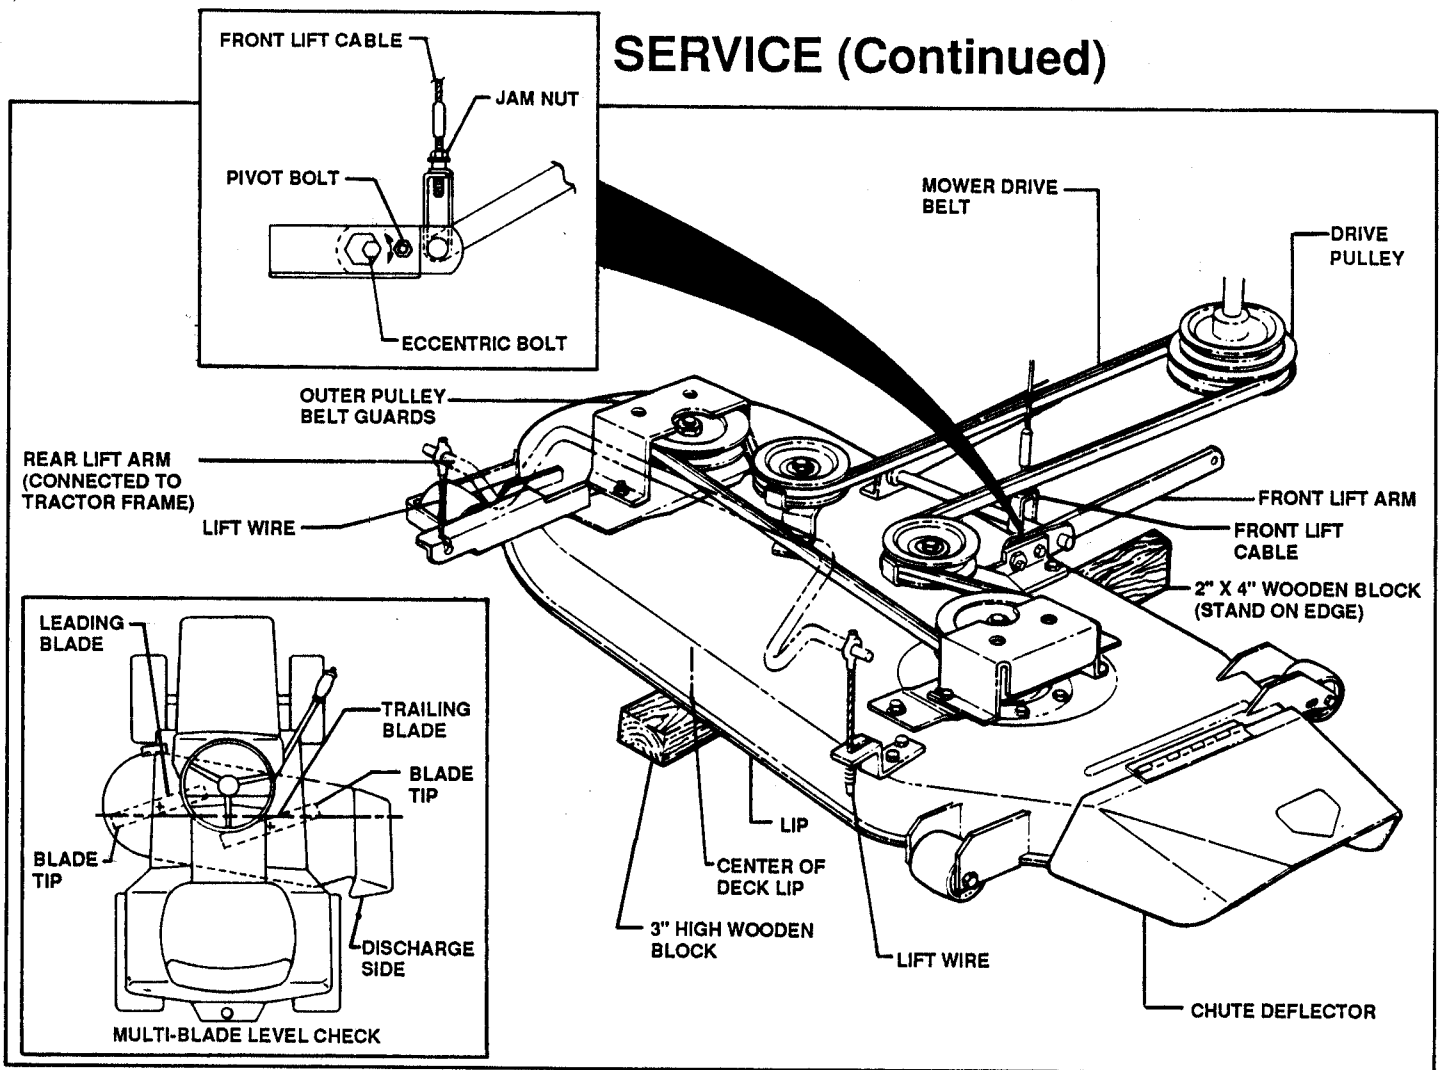

FIGURE 32
4. Place a 2 x 4 block on edge under the front lip of the deck in the exact center between the front lift arms. See Figure 32 on Page 13.